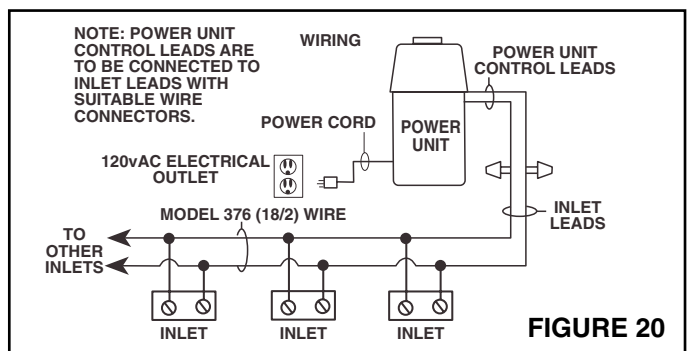

FIGURE 20
6. **Refer to Figure 20 on page 7.** Run low voltage wiring and secure wiring to tubing. Leave approximately 6" of wire for connection to each inlet.
WIRING See Figure 20.